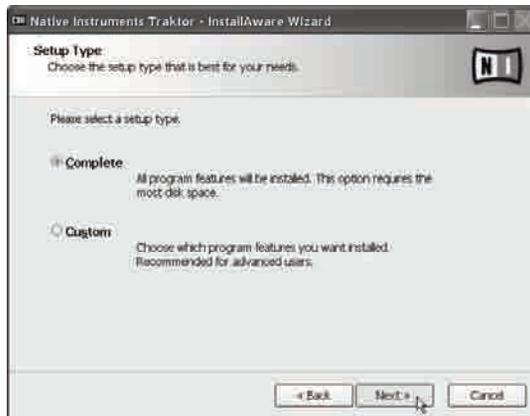

Figure 5.18
6. Select a *Setup Type* and click **Next**. (Figure 5.18)